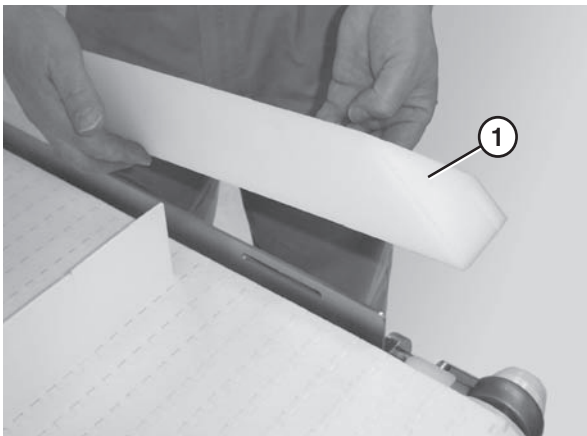

Figure 49
2. Remove the guide (**Figure 49, item 1**).